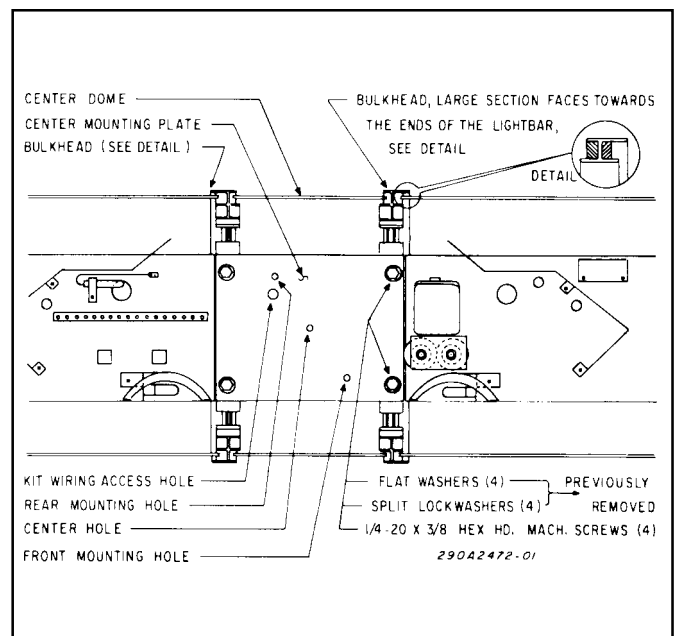

Figure 2.
(supplied), flat washers and split lockwashers (removed in step 2). (See figure 2.)
The bulkheads should be installed with the larger section facing the light bar's end as shown in figure 2.
5. See figure 2. Slide a bulkhead onto the extrusion from the end. Repeat on the other side.